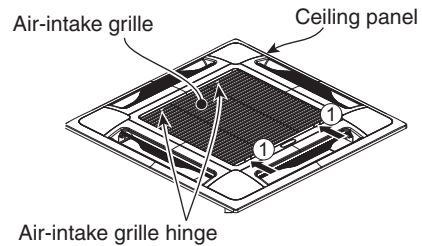

Fig. 7-15
- b) Slide the air-intake grille catches in the direction shown by the arrows ① to open the grille. (Fig. 7-15)